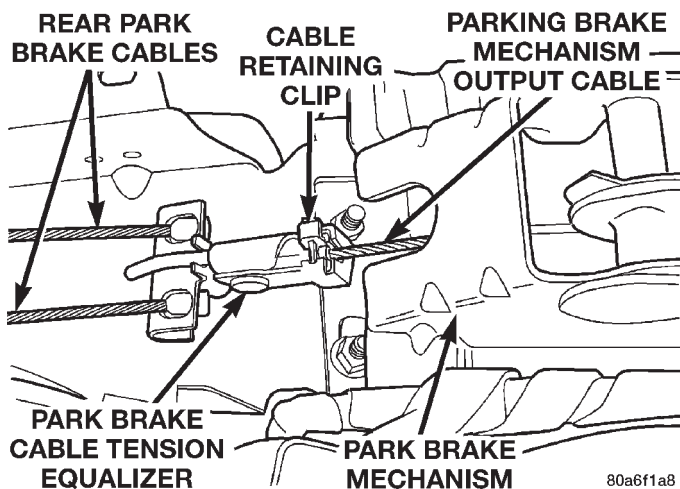

Fig. 165 Cable Retainer Installed On Tension Equalizer
CAUTION: A new retainer (Fig. 165) must be used when installing the park brake mechanism output cable on the cable tension equalizer. Cable retainer usage is required to ensure output cable can not separate from tension equalizer.
(15) Install a **new** park brake lever output cable to tension equalizer retaining clip (Fig. 165) on tension equalizer. The cable retainer (Fig. 165) must be closed and securely latched.